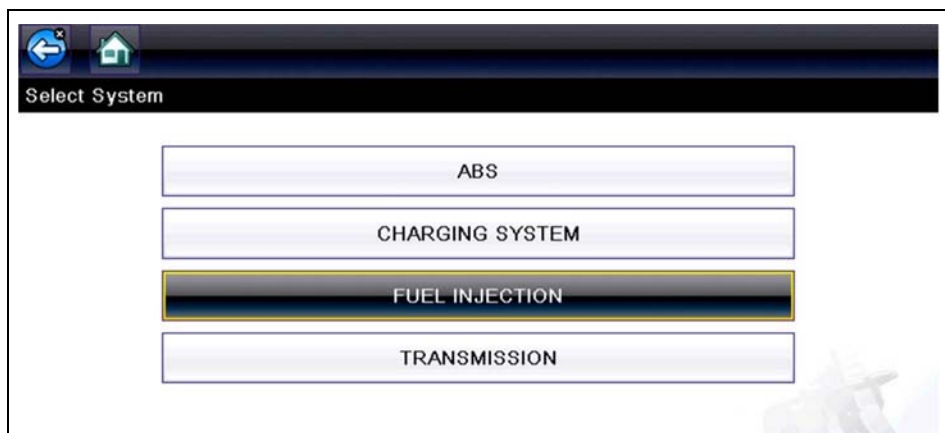

Figure 8-3 Systems Menu
1. Select a system from the list (Figure 8-3).